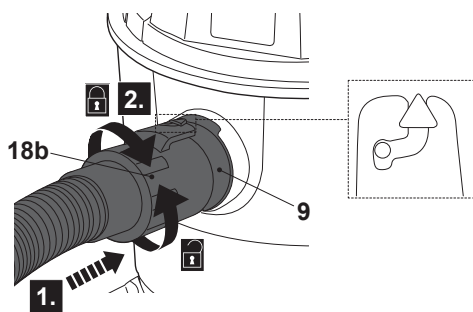

Fig. 14
- > Align the arrow on the hose connector (18b) with the tab on the outer opening of the air inlet (9) and slide the hose connector into the outer opening of the air inlet (Fig. 14, step 1).
- > Rotate the hose connector (18b) clockwise and ensure the connection is properly secured (Fig. 14, step 2).